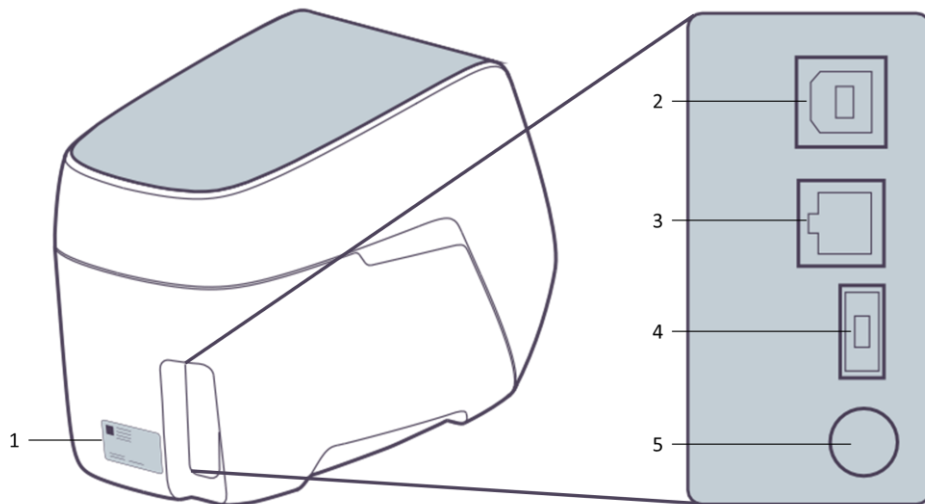

Figure 2: Back view of the Device (left). Zoomed view of the input panel (right).
Back view of the device with all main parts highlighted in Figure 2Figure 2. These parts are named in Table 5. Corresponding symbols are displayed in Table 3.
2. The power supply unit to port 4 of the device (see Figure 2).